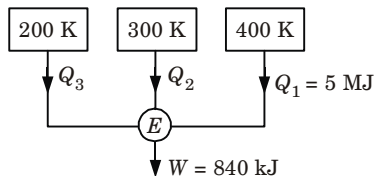

Fig. 1.
9. Discuss exergy destruction. A reversible engine, as shown in Fig. 1, during a cycle of operations draws 5 MJ from the 400 K reservoir and does 840 kJ of work. Find the amount and direction of heat interaction with other reservoirs.